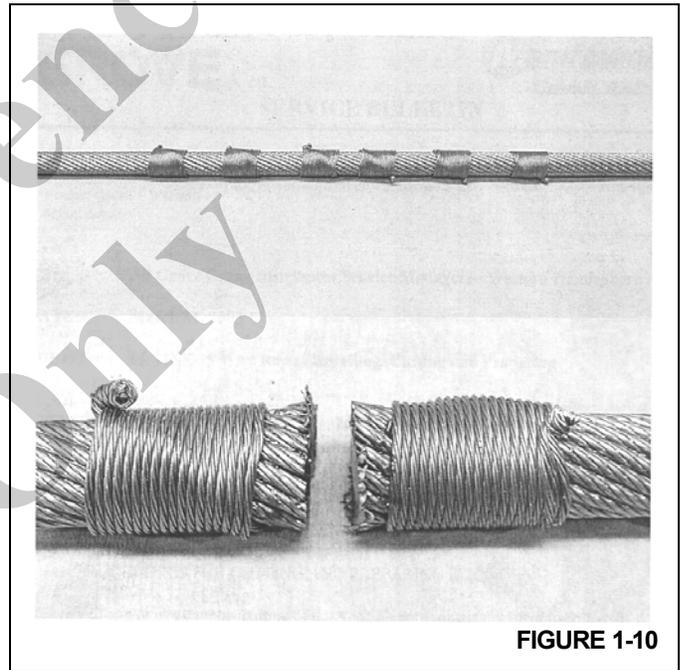

FIGURE 1-10
2. Before cutting the rope, make three separate bands with seizing strand on each side of where the cut is to be made (total of six bands for each cut as shown in Figure 1-10). Each band is to have a minimum length of one and one half times the rope diameter. The two bands closest to the cut should be located at a distance equal to one rope diameter away from the cut. The four remaining bands should be evenly spaced at a distance equal to three rope diameters.